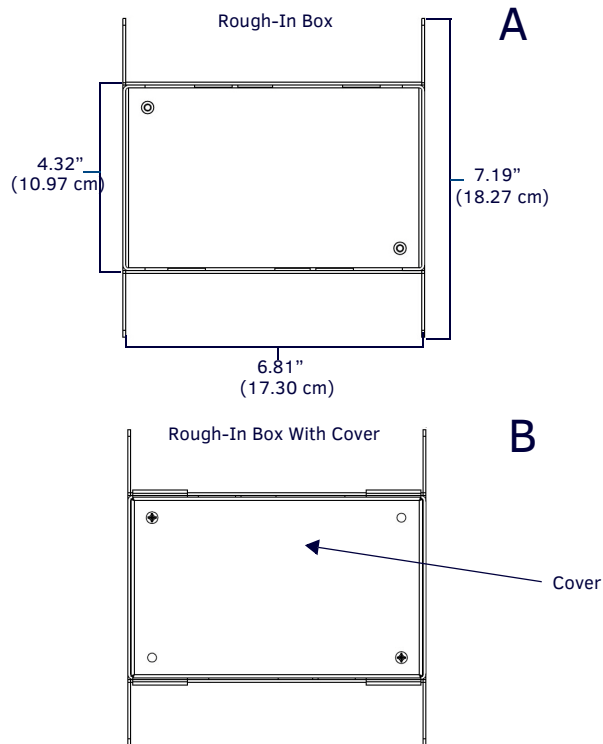

FIG. 1 CB-MXSA-07 ROUGH-IN BOX - WITH FRONT COVER
- Remove the rough-in box cover (**B** in FIG. 1) before installation of the Rough-In Box (**A**). *Note: the cover MUST be removed before drywall installation. The cover may be reinstalled after drywall installation using 4-40 screws (not included).*
NOTE: The front cover of the CB-MXSA-07 (**B** in FIG. 1) should be installed after the appropriate wiring is pulled to the Rough-In Box. The cover should then be removed prior to the installation of the touch panel back box and discarded.